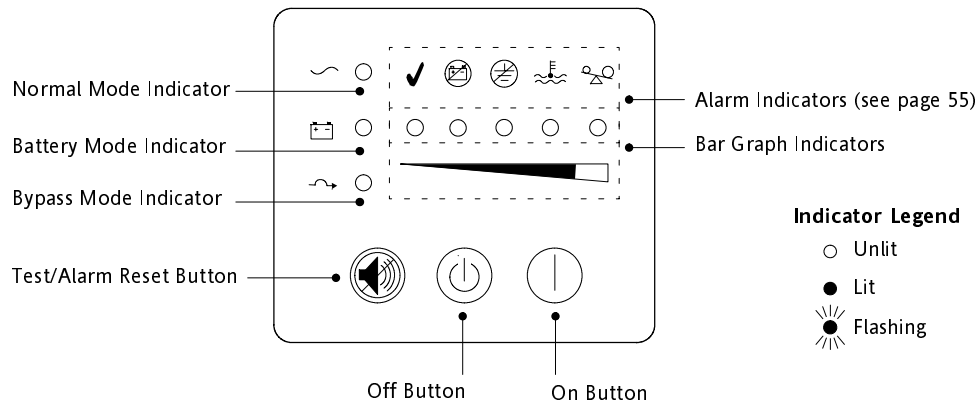

Figure 14. UPS Front Panel
8. Press the On | button (see Figure 14 on page 33).
13. Press the On | button (see Figure 14 on page 33).
After the UPS is connected to utility power, it enters Standby mode. To turn on the UPS, press the On | button on the front panel (shown in Figure 14 on page 33). The  indicator illuminates and the bar graph indicators display the percentage of load being applied to the UPS.
Powerware 9125's front panel indicates the UPS status through the UPS indicators. Figure 14 shows the UPS front panel indicators and controls.